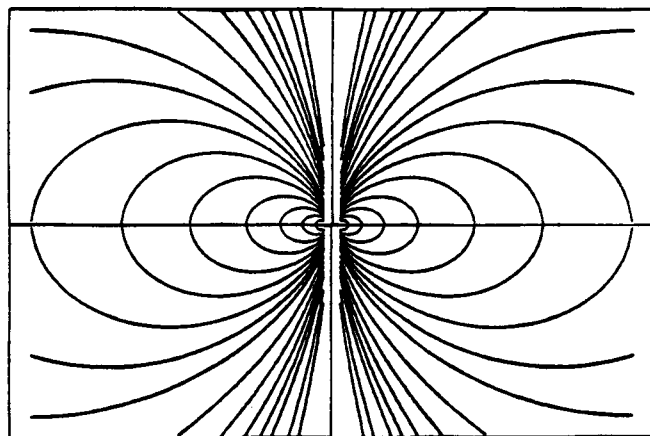
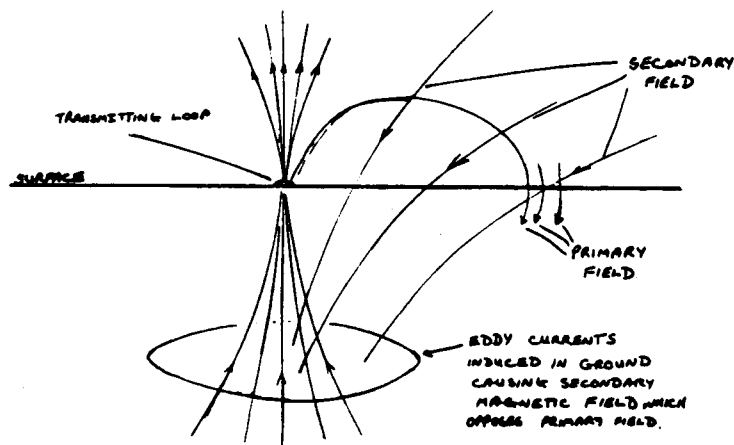

Fig. 1. The primary magnetic field around a coil. (The figure is geometrically accurate.)
Fig. 2. Showing the primary and secondary magnetic fields arising from a loop on the earth's surface.
First, consider a transmitting loop lying flat on the ground (Fig 1). The primary magnetic field is the familiar shape shown in the figure, however the current in the coil will induce eddy currents in the conductive ground. These eddy currents will, like those in any inductive load, be 90° out-of-phase behind the current in the primary coil, and will give rise to a secondary magnetic field (Fig 2).
If a current is introduced into the ground through a pair of spaced electrodes and the potential v across an area between them is measured, (fig 1), then the resistance can be worked out. The relationship between voltage, current and resistance is defined by Ohm's law. This states that $V = IR$.
1) The Wenner Configuration is attributed to F. Wenner (1916) who pioneered much of work in the field of resistivity with this array. In the array (fig 2), all the electrode separations [a], are equal so that the apparent resistivity becomes